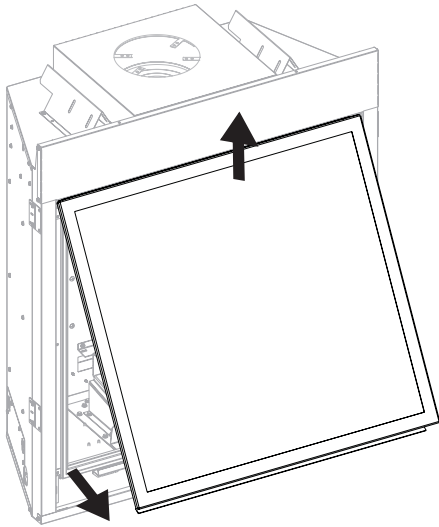

Figure 6
3. Disengage Glass Frame by pulling in upward swinging position. **See Figure 6.**
18. Reinstall the glass frame removed in step 3. **See Figure 6.**